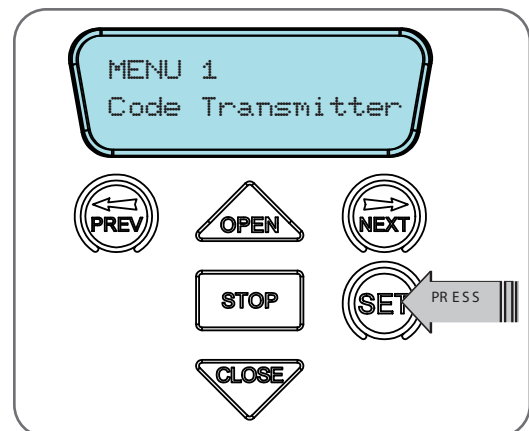

Fig 9.4
- Press SET to enter the code set procedure (Fig. 9.4).